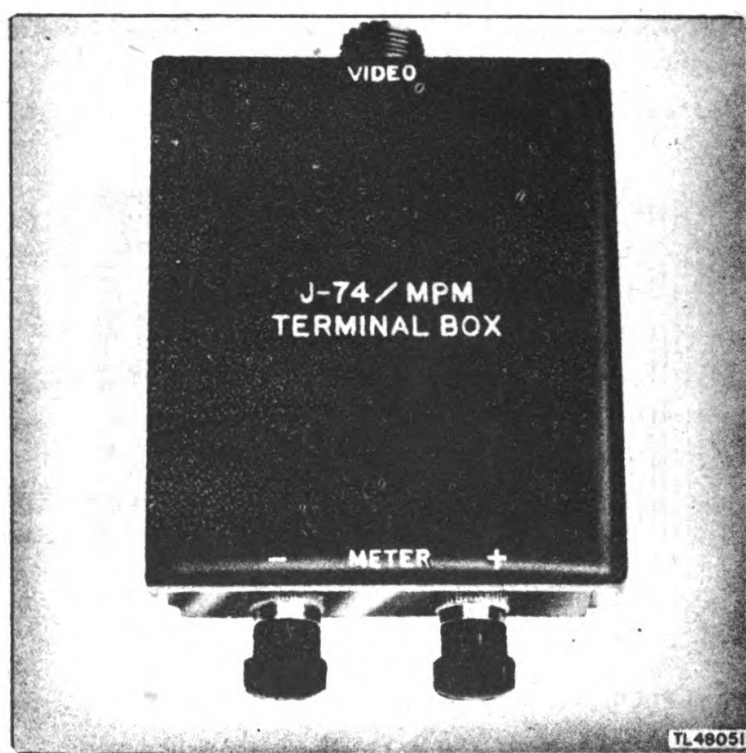

Figure 26. Terminal Box J-74/MPM.
25. TERMINAL BOX J-74/MPM (figs. 26 and 27).